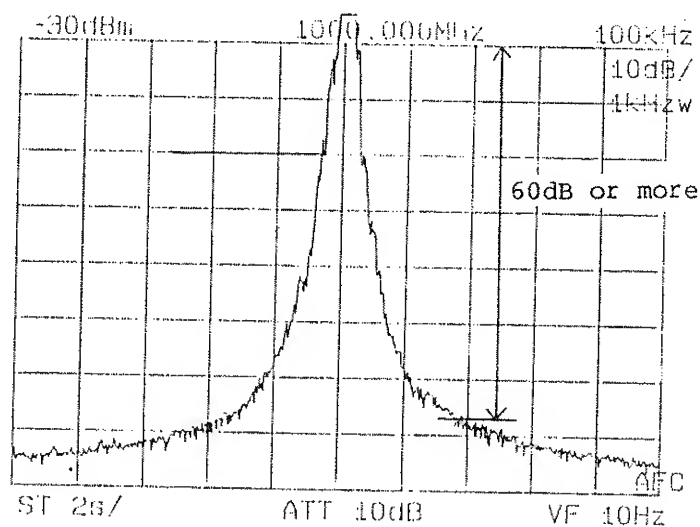

Figure 11-11 Noise Sidebands Measurement
- ④ Reduce the span to 100 kHz. If the waveform peak moves from the center of the display screen, center it again by turning the TUNING dial.
- ⑤ If the peak moves from the center of the display screen, center it again by turning the TUNING dial.
- ⑥ Set the reference level to -30 dBm and the video filter to 10 Hz.
- ⑦ Measure the noise sidebands at the position which is 2 divisions (20 kHz) from the center of the display screen. Check that the noise sidebands is lower than the reference level by 60 dB or more as shown in Figure 11-11.